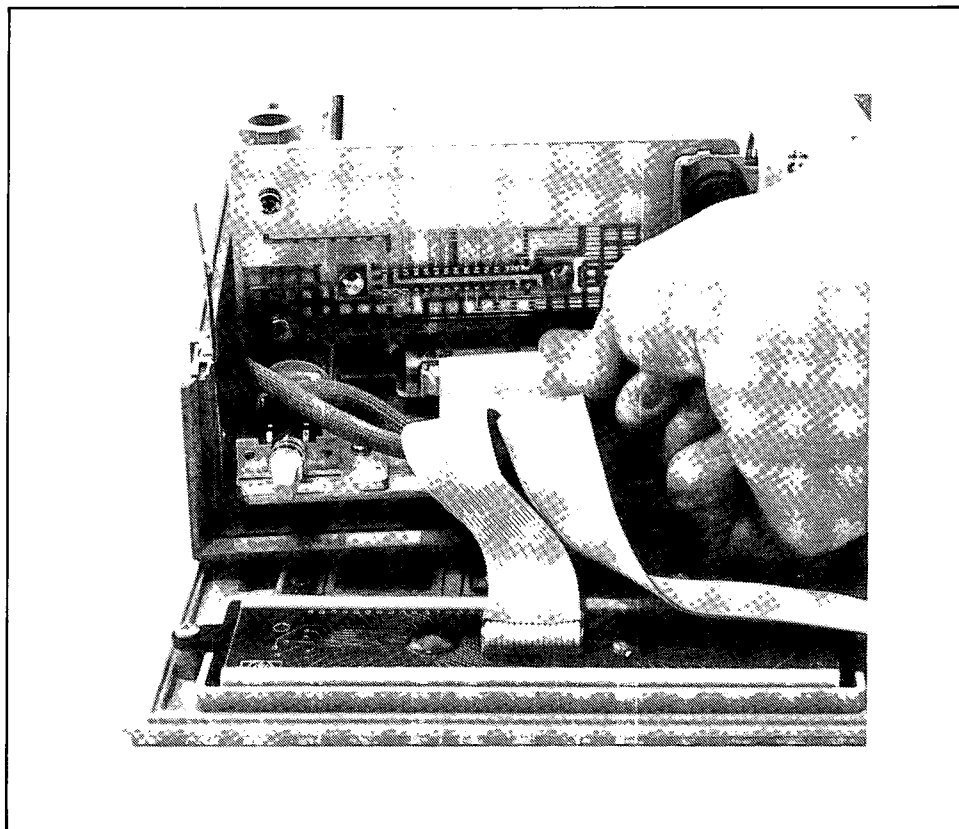

Figure 5-1 Cable Removal
3. Lift the front panel up and out. The cable that attaches the front panel to the controller board has enough slack to allow the front panel to be removed. If it is desired to completely remove the front panel, disconnect the grey cable at the controller board connection by pulling the white plastic tab installed on the connector. The cable removal is shown in Figure 5-1.
2. Disconnect the front panel cable from the controller by pulling the white tab installed on the connector (see Figure 5-1).
2. Disconnect the front panel cable from the controller board by pulling the white tab installed on the connector (see Figure 5-1).